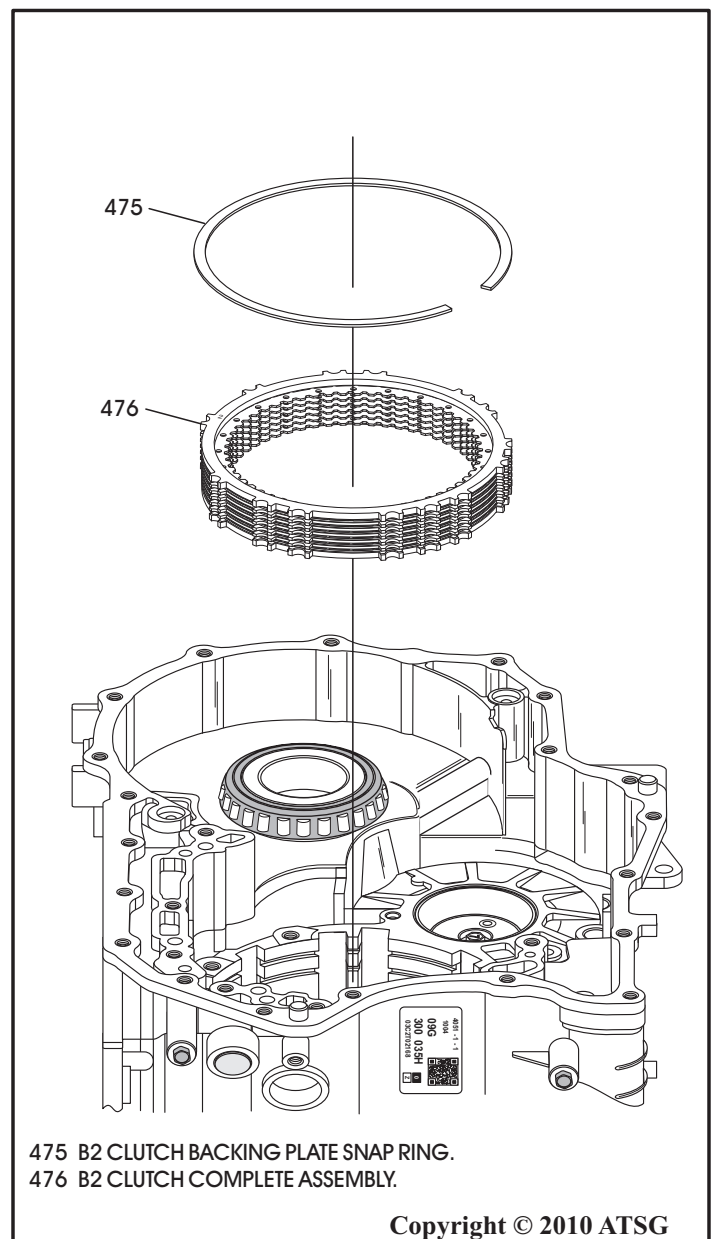

Figure 83
65. Remove the B2 clutch backing plate snap ring, as shown in Figure 83.
66. Remove the complete B2 clutch pack from the transaxle case, as shown in Figure 83.